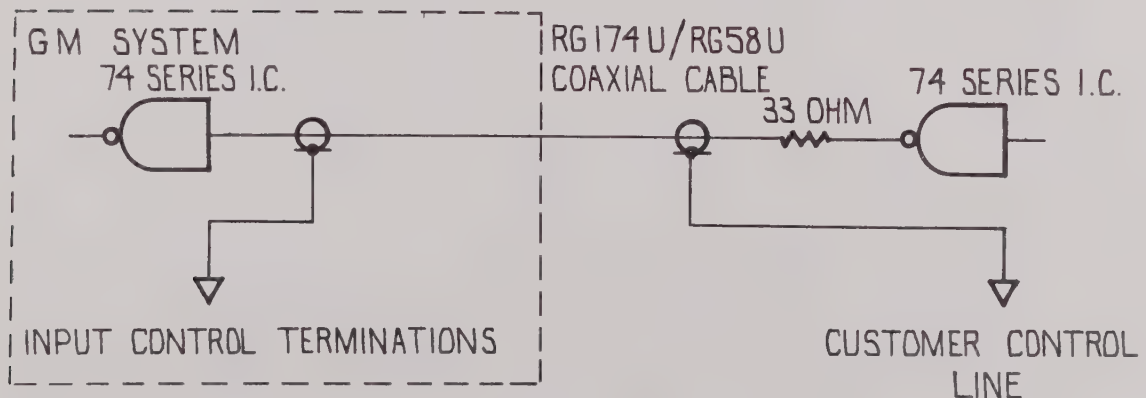

FIGURE 1.1
1.3.1 Input Control Line (Figure 1.1) Terminations
Input Control Line receiving devices are normally TTL Logic, 74 series integrated circuits. These control lines are normally not internally terminated and for this reason, we recommend series termination resistors of 33 ohms at the driving end as shown in Figure 1.1